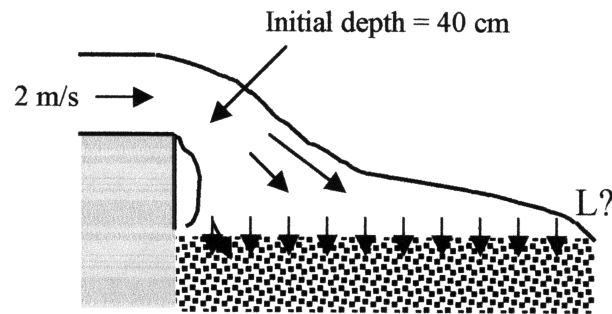

Fig. P3.19
3.19 Water from a storm drain flows over an outfall onto a porous bed which absorbs the water at a uniform vertical velocity of 8 mm/s, as shown in Fig. P3.19. The system is 5 m deep into the paper. Find the length L of bed which will completely absorb the storm water.